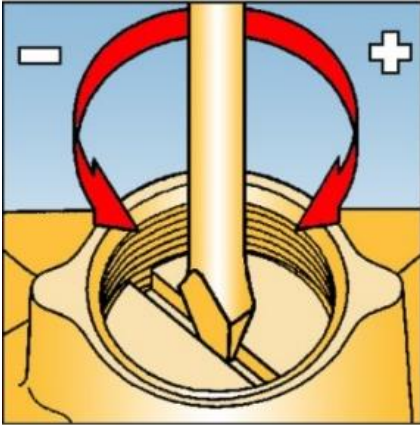

Fig. 4
5. Insert a flat bladed screwdriver into slot on the OPSS spring adjuster. See Fig. 4 HP or 5 LP.
8. Slowly turn OPSS spring adjuster anticlockwise (-) until OPSS device trips off. See Fig. 4 HP or 5 LP.